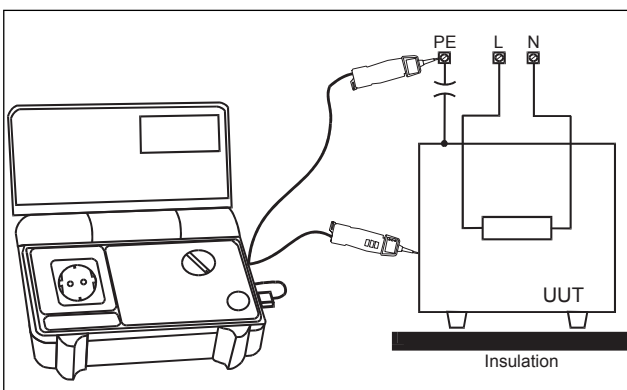

Fig.7.32
- Connect UUT to Commander 2 (see Fig. 7.32).